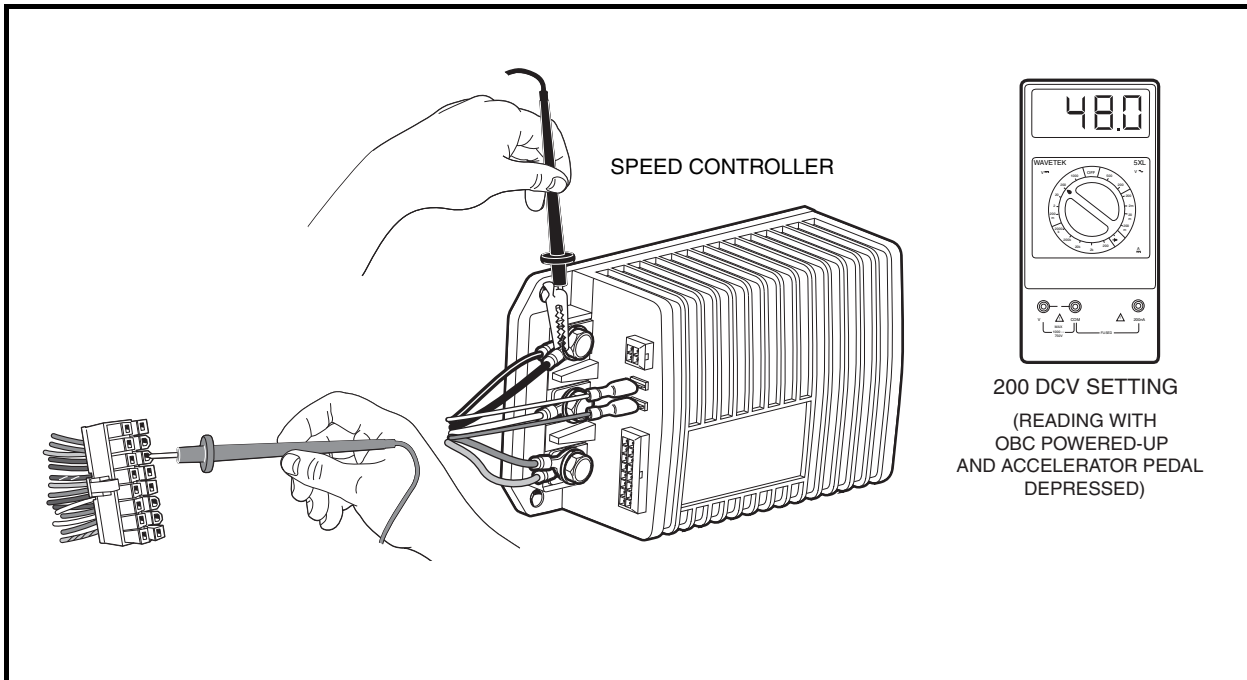

Figure 11-16 Pin 6 Test
4. Set a multimeter to 200 volts DC, insert the red (+) probe of the multimeter into pin 6 (green wire) of the 16-pin connector. See **following CAUTION**. Using an alligator clip, connect the black (–) probe to the B– terminal of the speed controller (**Figure 11-16, Page 11-29**).